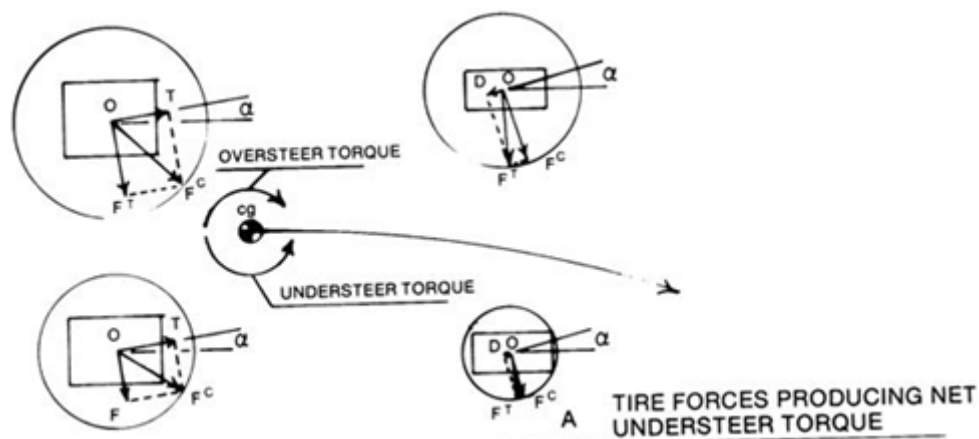

Figure 8
With zero front toe settings, the front tyre rolling drag creates a small understeer torque. Zapetal quantifies the rolling drag as being only 1% of the vertical load. However, in the corner, the drag component of the force acting on the tyre is very much greater. Drivers of low powered racing cars are familiar with how much speed you lose if the car has understeer in fast corners. Figure 8 shows the front tyre drag components of the lateral tyre force. The drag gets greater with increasing slip angle.
Carroll Smith in "Tune to Win" page 130, calculates the front tyre drag for a Formula Ford. It is significant even for a well balanced car. Because the heavily loaded outside tyre is developing most of this drag, the net effect is an understeer torque. In a fast corner, it is hard to imagine that you could turn that around to an oversteer torque by increasing drag on the inside tyre by increasing the slip angle. Even if you could, Figure 8 shows this important concept of the oversteer and understeer torques acting on the centre of gravity. Mark Ortiz, in my view the best writer in vehicle dynamics, often uses this concept to describe how a car will gain understeer or oversteer. Even if we can't calculate hard numbers, we can hopefully predict the direction the set up will take, as we attempted with this Carroll Smith Formula Ford example, the total drag would make you slow.
- With low profile tyres the slip angles will be a lot less. The tyre drag will be less. The slip angle on the inside tyre will have a smaller drag component (Figure 8). So it may be more difficult to use pro-Ackerman to create the oversteer torque. The toe out from the slip angles will be less. The slip angle variation from outside to inside tyre will be a smaller number, requiring different Ackerman to achieve what we want.